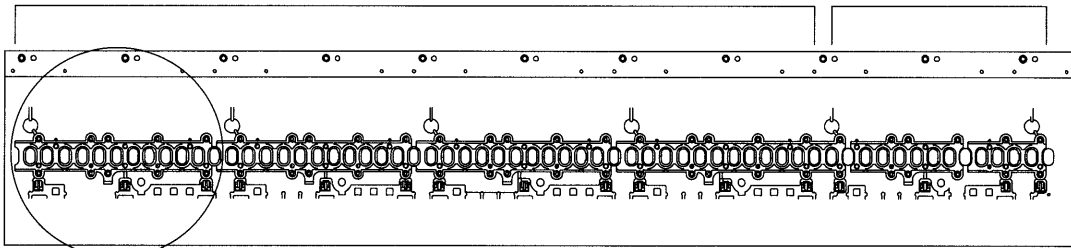

Fig.1
1) Turn the chassis over as shown in fig.1. Next, place 4 pieces of RUBBER SWITCH 12P in turn, on the chassis from the left end (the bass side of keyboard), aligning them with the long holes provided on the chassis.
1) Fig.1のようにシャーシを裏返します。次にRUBBER SWITCH 12Pを長穴に合わせて左側 (鍵の低音部)より順に4つシャーシに配置します。